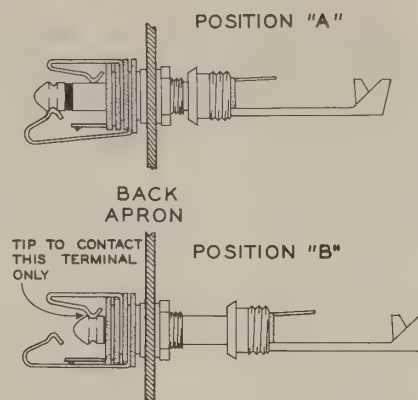

Figure 10
- ✓ Withdraw the phone plug part way out of the METER JACK to position A, so that the tip of the plug contacts ONLY the first terminal when it enters the jack. Make certain the tip of the phone plug does NOT also contact the second terminal. In this position the meter indicates rectified RF voltage at the input to the transmission line (or dummy load in this case). Connecting the meter to the phone plug, as was done before, set the range of the meter to indicate 20 volts DC or more. See Figure 10.